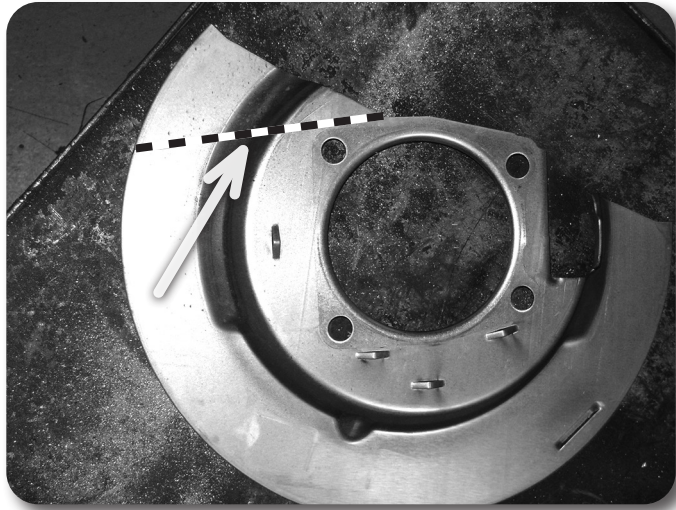

Figure 37
54. Locate the factory driver's and passenger's brake dust shields. They need to be modified to provide adequate brake caliper clearance. Make a cut line by following the straight edge on the caliper side of the shield all the way to the bottom edge of the shield. Figure 37 Cut the shield along the line.